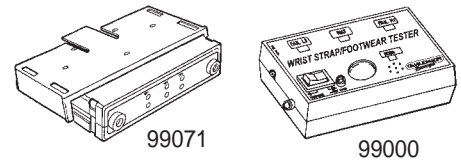

Figure 4. Wrist strap testers
5. Using the equipment shown in fig. 4 under "Testing", test the wrist band while it is worn to be sure of proper electrical resistance